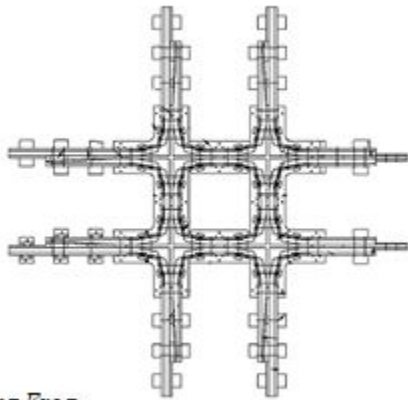

Figure 107K *Crossing Frog*
- Railroad Crossing Frogs (Diamonds) – Railroad Crossing frogs allow two tracks to cross over one another at grade. They may be constructed from all rail or with manganese inserts at the locations where the rails cross over each other. (See to Figure 107K)